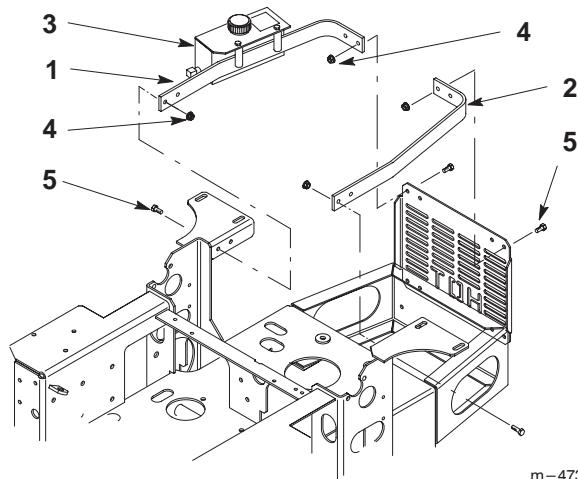

Figure 2
2. Remove both the left and right rear engine guards (Fig. 2).
Note: Do not remove hydraulic reservoir from right rear engine guard. Make sure reservoir stays in upright position (Fig. 2).